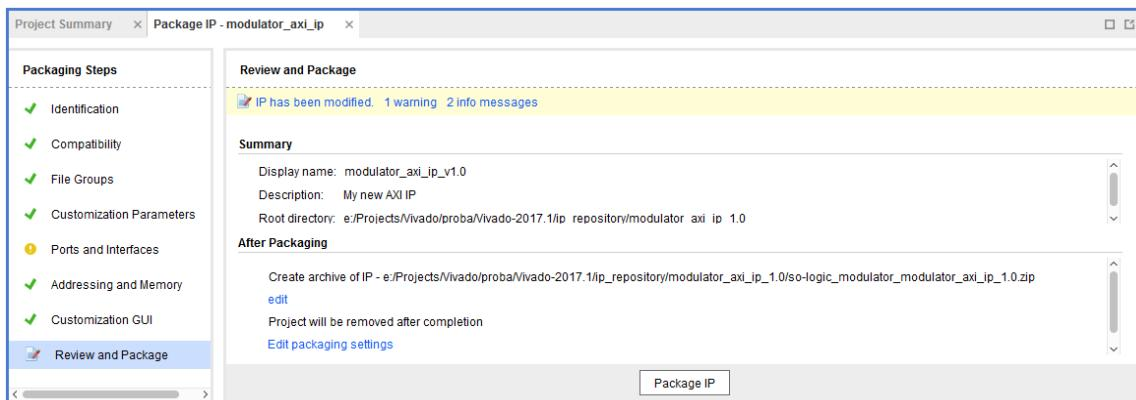

Figure 12.87: Review and Package window
30. Now, open **Review and Package** section and click **Re-Package IP** option, see Figure 12.87.